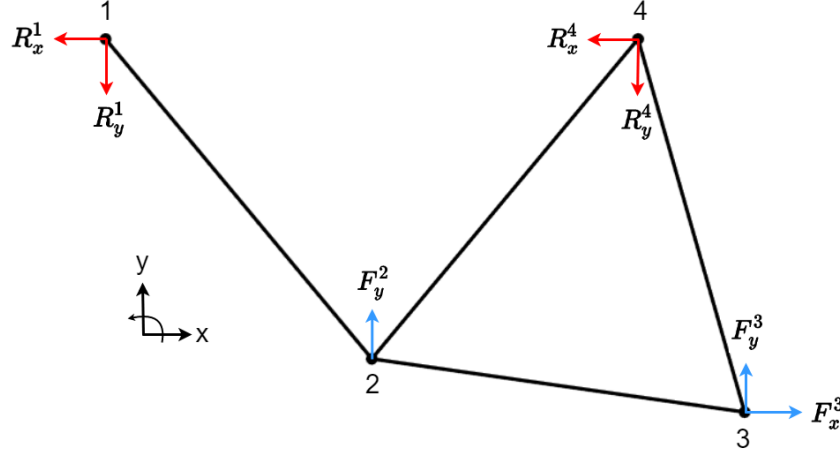

Figure 1: Schematic overview of the truss system. Reaction forces are shown in red and external forces are shown in blue.
In this assignment we are going to write a script for calculating the unknown forces in a statically determinate truss system. The truss system that will be used to write and test the script can be seen in Figure 1. Note that once the script contains no errors and works as intended, we can practically think of any truss system and calculate its unknowns, as long as the system is statically determinate.
- c) Assign the value -1 (we have defined positive reaction forces to point in negative direction, see Figure 1) to the correct positions in matrix `A`.